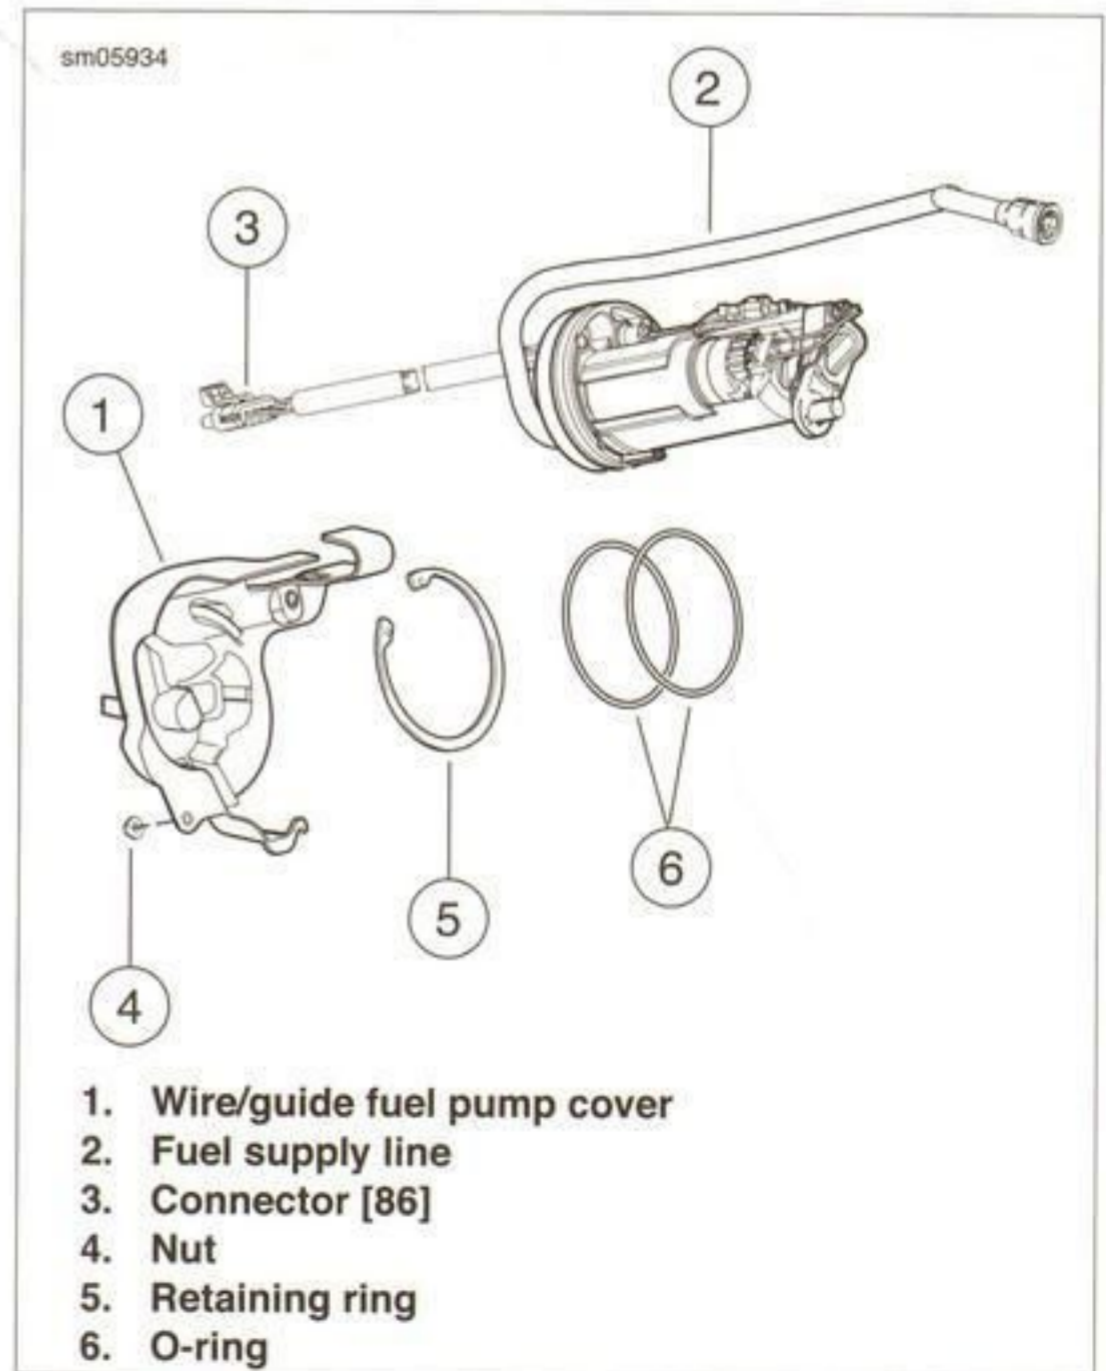

Figure 7-129. Fuel Pump Components
1. See Figure 7-129. Lubricate fuel pump O-rings (6) with clean engine oil.